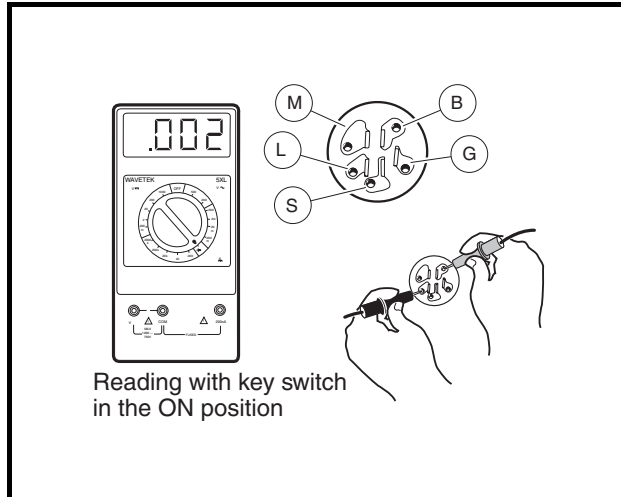
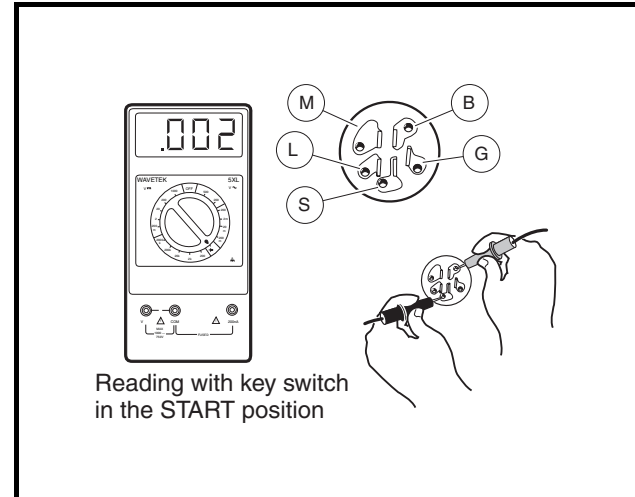

Figure 11-11 Key Switch Test – Accessory Terminal
Figure 11-12 Key Switch Test – Starter Circuit
5. Insert the key and turn the key to ON. Place the red (+) probe of the multimeter on the (B) terminal and the black (-) probe on the (L) terminal of the key switch. The reading should be continuity. If the reading is incorrect, replace the key switch (**Figure 11-11, Page 11-16**). See **Key Switch Removal, Section 12, Page 12-14**.
6. With the key still in the ON position, place the red (+) probe of the multimeter on the (B) terminal and the black (-) probe on the (S) terminal of the key switch. The reading should show no continuity. If the reading is incorrect, replace the key switch. See **Key Switch Removal, Section 12, Page 12-14**. If the reading is correct, leave the probes connected and proceed to the next step.
7. Insert the key and hold the key in the START position. The reading should be continuity. If the reading is incorrect, replace the key switch (**Figure 11-12, Page 11-16**). With the red (+) probe of the multimeter on the (B) terminal and the black (-) probe on the (L) terminal of the key switch, the reading should be continuity. If either reading is incorrect, replace the key switch. See **Key Switch Removal, Section 12, Page 12-14**.
5. Insert the key and turn the switch to the ON position. With the multimeter set to 200 ohms, place the red (+) probe of the multimeter on the (B) terminal and the black (–) probe on the (L) terminal of the key switch (**Figure 11-11, Page 11-16**). The reading should be continuity. If the reading is incorrect, replace the key switch. See **Key Switch Removal, Section 12, Page 12-14.**